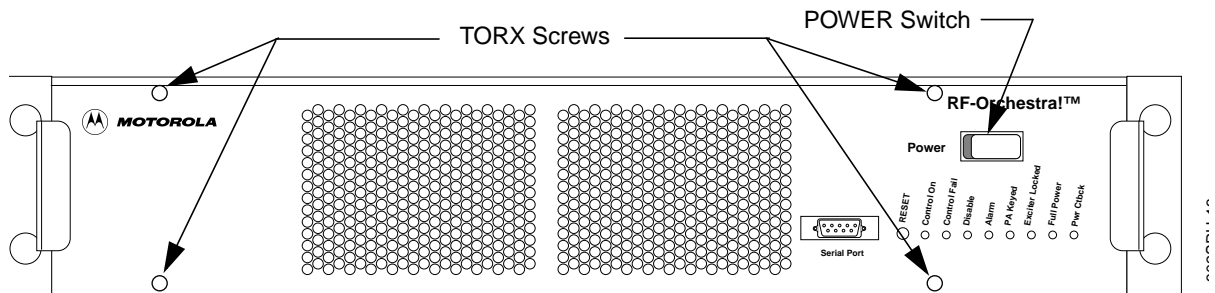

Figure 6-5: RF-B! Transmitter Controller Front Panel
1. Set the RF-B! transmitter controller POWER switch to OFF (O) (see Figure 6-5).
2. Remove the four #15 TORX screws holding the faceplate to the front of the RF-B! transmitter controller (see Figure 6-5).
2. Set the RF-B! transmitter controller POWER switch to ON (I) (see Figure 6-5).